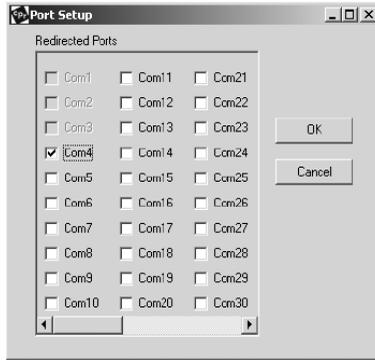

Figure 21: Port Setup Window
6. Click the **Com Setup** button. A Port Setup dialog box appears (Figure 21), with the first logical communications port checked.
- The physical communication ports on the computer where the Com Port Redirector is installed are grayed-out and unavailable. In Figure 21, these are Com1 through Com3. Your unavailable communication ports may vary